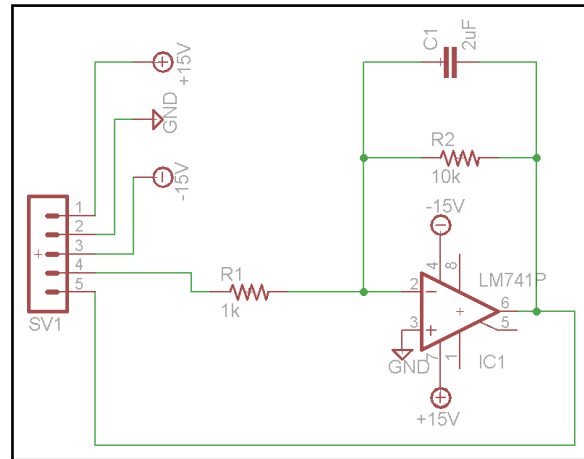

Figure 3: Complete wired schematic.
7. Complete the wiring as per Figure 3.